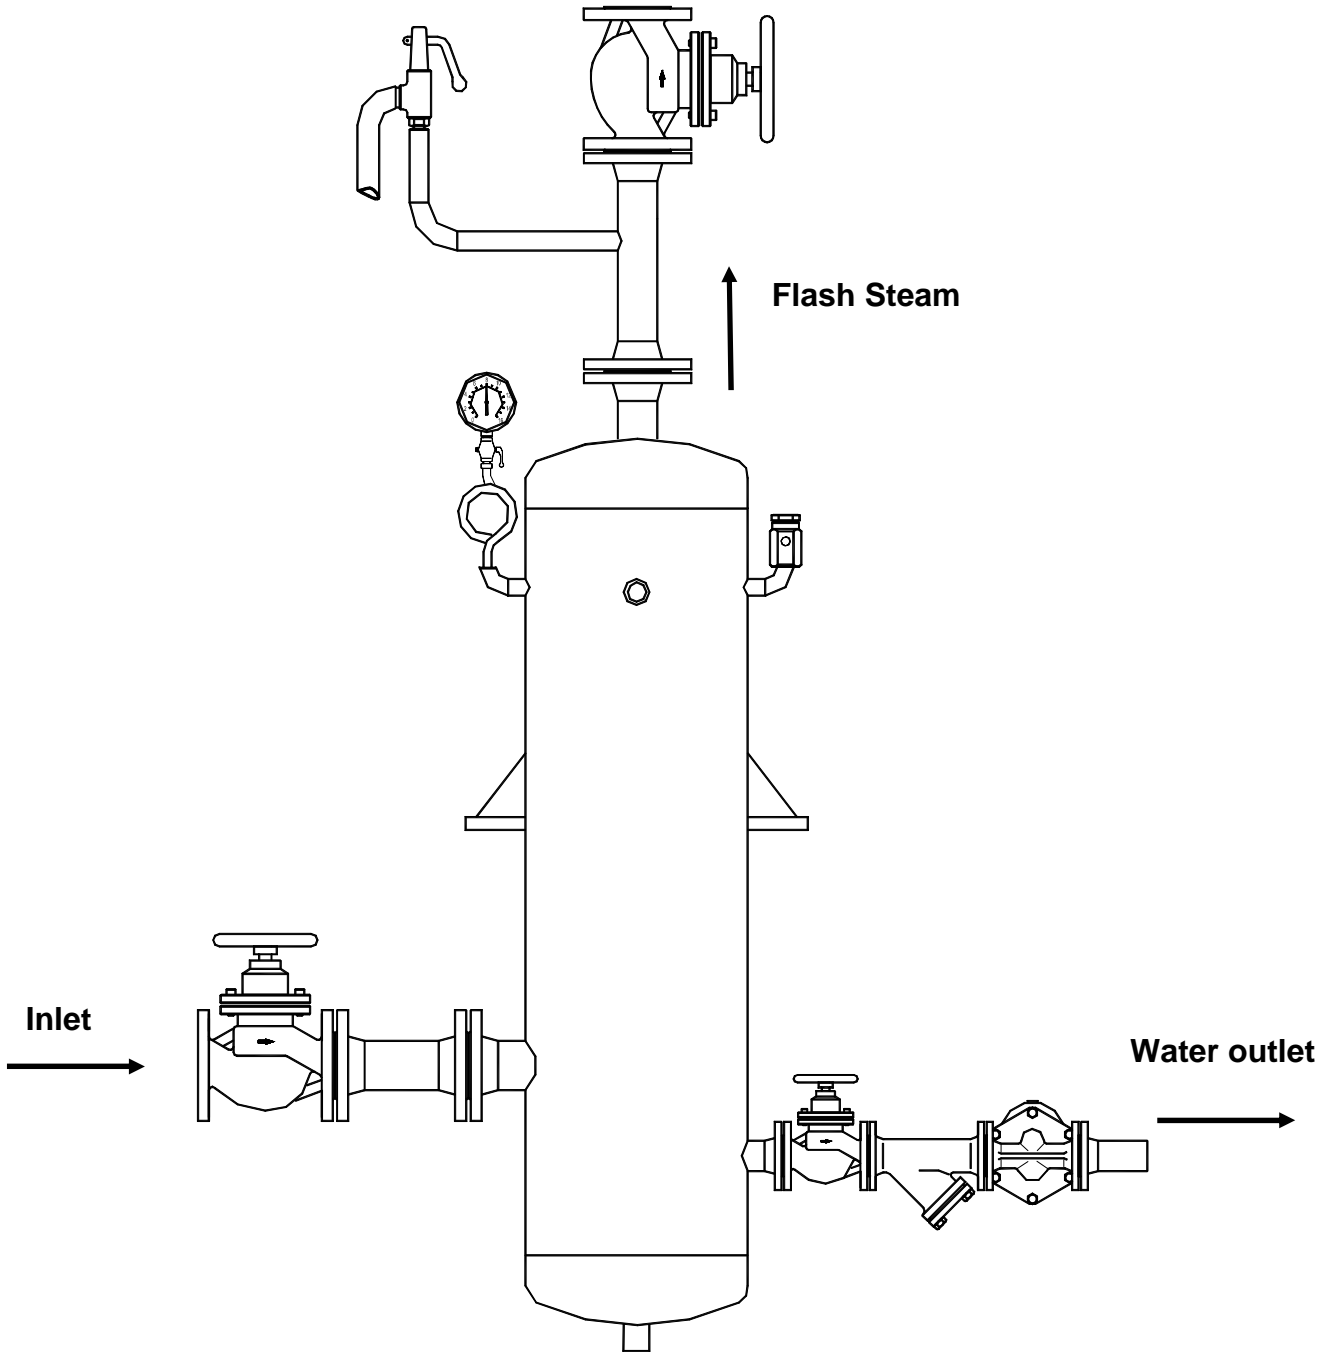

Fig.1
- If malfunction of any other equipment or system operation failure may result in a dangerous overpressure, overtemperature or even vacuum condition, a safety device must be included in the system to prevent such situations. A safety valve socket connection is provided on the vessel. If the selection of the safety valve recommends the use of a valve connection bigger than that included on the vessel, then, we recommend it's installation as mentioned on fig.1.